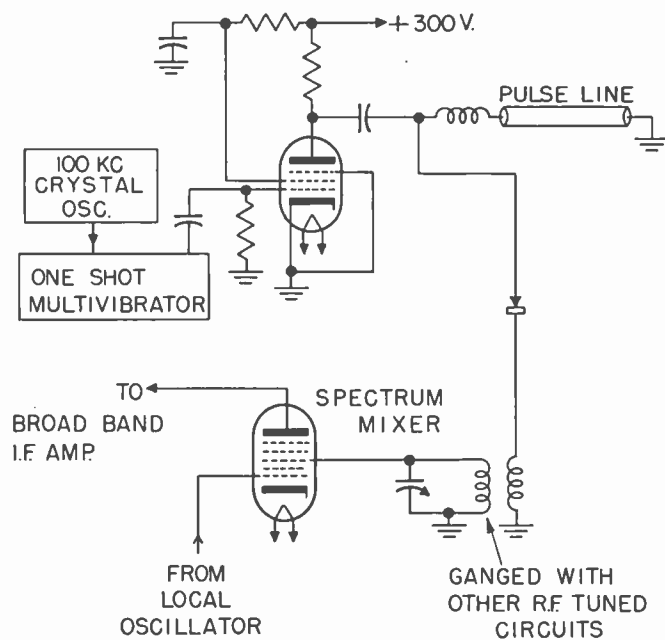

Fig. 2—Spectrum generator.
The spectrum generator produces all the harmonics of a 100-kc temperature controlled crystal, up to and above the top tuning frequency. These are generated in a simple circuit employing a short pulse line which produces 0.02 μ sec pulses at 100-kc repetition frequency. This circuit is shown in simplified form in Fig. 2.
We note that $C_{13} = -a_{12}$ and $C_{23} = -a_{22}$ (this follows from the first three equations at the top of page 760 and (1)), and also that if a T-section is considered in place of the blocks in Fig. 2 $C_{23} = -1$ and $C_{13} = -\frac{1}{2}Z$ where Z is the impedance of the full series arm. The